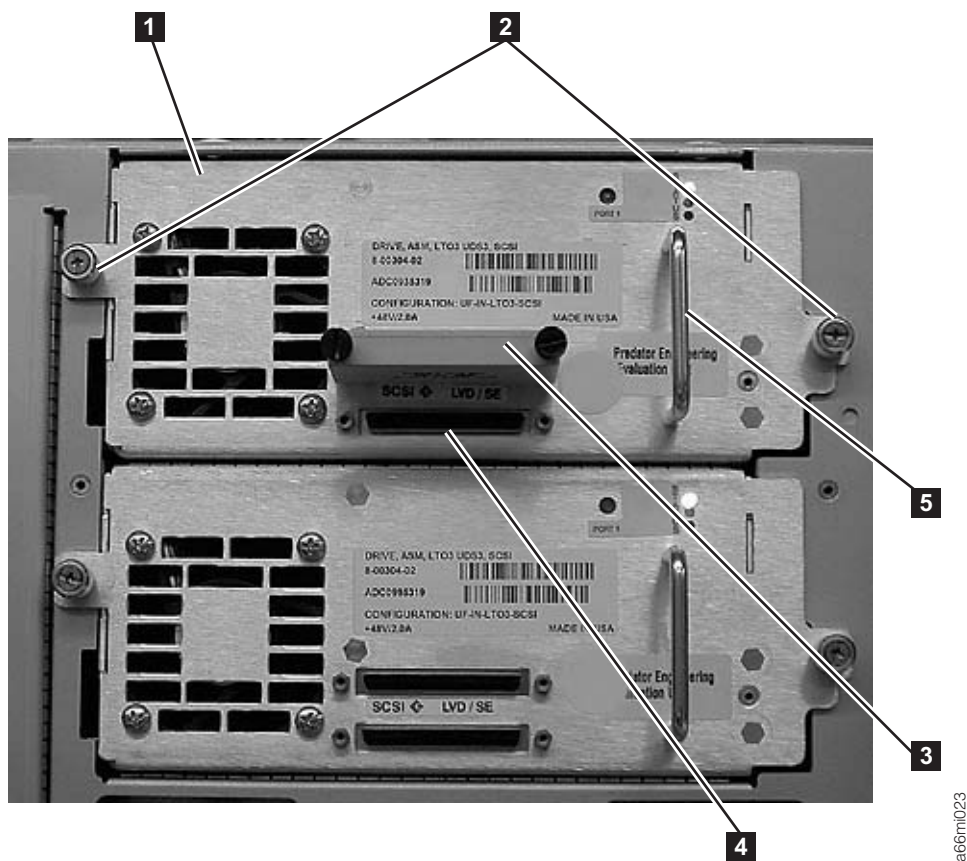
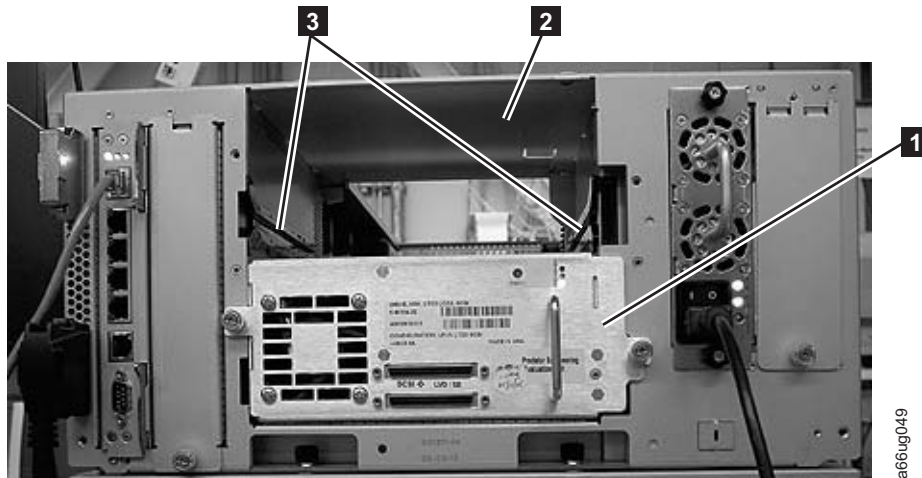

Figure 8-34. Drive sled (detail)
Figure 8-36. Drive sled slot
3. Loosen the two thumb screws (**2** in Figure 8-34 on page 8-34) that hold the drive in place by turning them counterclockwise.
4. Slide the drive out of the library module. Grasp the handle (**5** in Figure 8-34 on page 8-34) and slowly pull the drive toward you, while supporting the drive sled from underneath.
1. Align the drive sled with the guide rails and guide slots along the tracks (**3** in Figure 8-36 on page 8-36) in the open drive sled slot (**2** in Figure 8-36 on page 8-36). Grasp the handle (**5** in Figure 8-34 on page 8-34) and slowly slide the drive sled into the library, while supporting the drive sled from underneath.
2. Tighten the two thumb screws (**2** in Figure 8-34 on page 8-34) that hold the drive sled in place by turning them clockwise.
- a. For a SCSI drive sled, plug the cable and terminator into the drive sled. Tighten the thumb screws that hold the SCSI cable (**4** in Figure 8-34 on page 8-34 shows the SCSI receptacle) and terminator (**3** in Figure 8-34 on page 8-34) in place by turning them clockwise.